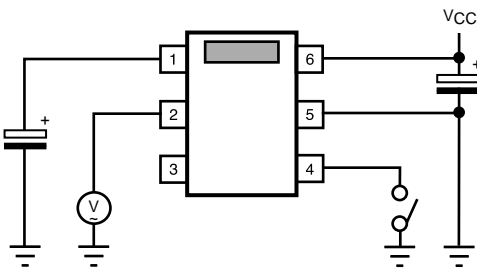

Figure 7
- Note 2: This value measured with a capacitor connected between the input terminal and ground. See Figure 7.
RESIDUAL NOISE (FIGURE 7)